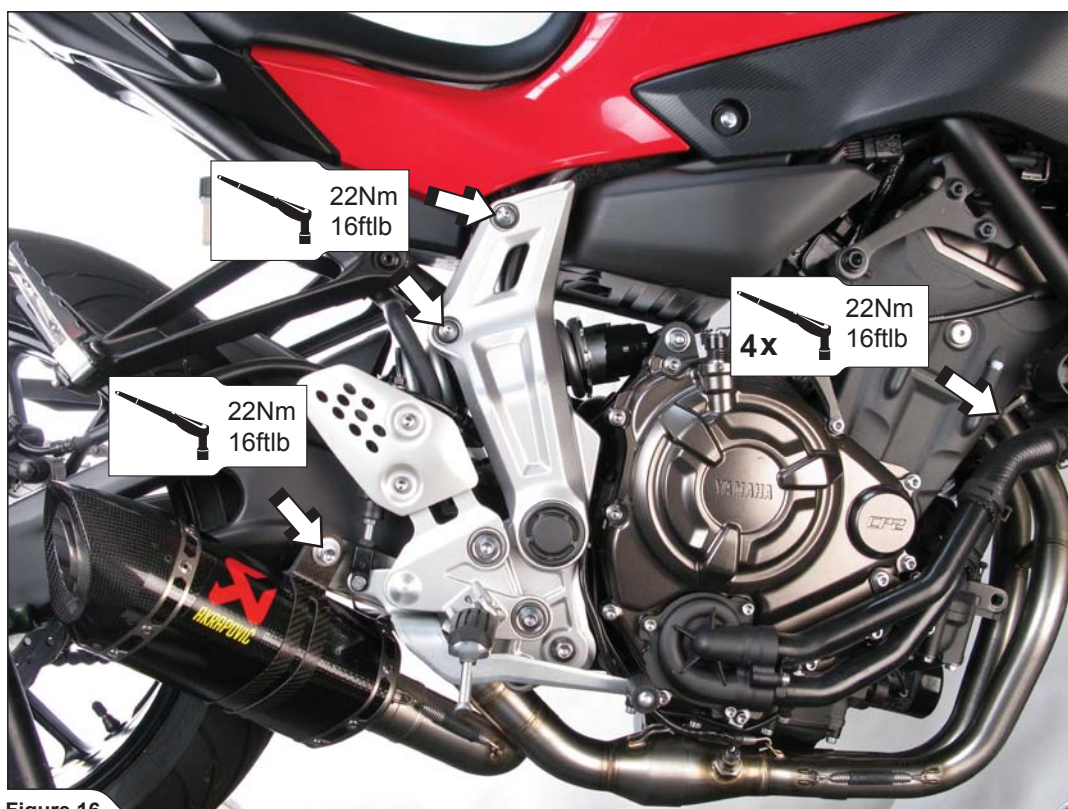

Figure 16
7. Reinstall and tighten stock plastic shield using stock bolts with specified torque. Align the muffler in respect to the swing arm, tighten the clamp's bolt, and tighten the header's flanges to the specified torque (**Figure 16**).